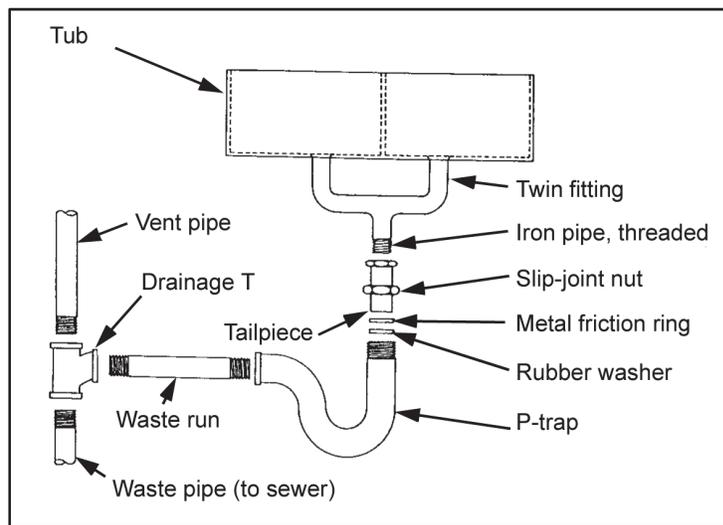

Figure 4-25. Laundry tub installation
4-59. Use the following steps and figure 4-25, page 4-24, to install a tub (refer to chapter 7 for faucet installation):
- Step 3.** Connect the P-trap to the tub as shown in figure 4-25.